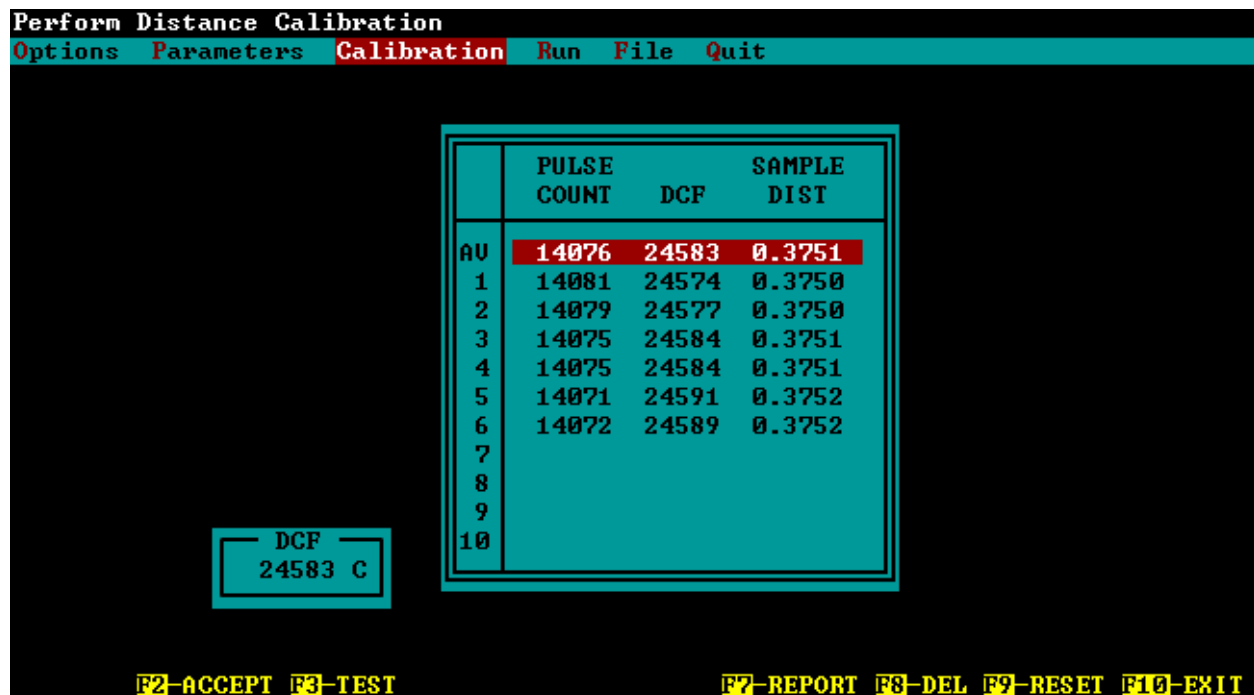

Figure 3-11. MDR Software Calibration Screen After Performing DMI Calibration.
8. When the profiler is approximately ten (10) ft from the ending point of the distance calibration course, the profiler should be gradually rolled forward until the mark on the profiler is aligned with the mark on the pavement from the constant vantage point of the operator. At the same time as the mark on the profiler aligns with the mark on the pavement, the operator should press the 'Backspace' key to stop the pulse counts for the distance calibration. The MDR software automatically computes the DCF from the number of pulse counts and displays the values on the screen.
9. Steps 5 through 8 should be repeated five more times until six calibration attempts have been completed. When six calibration runs have been obtained, the monitor will display a screen similar to that shown in Figure 3-11.